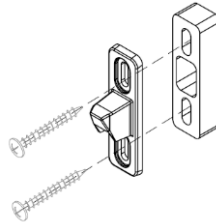

Figure 25
- 2) Please see figure 25 above, box keeper must be installed with screen spacer provided. This will prevent the screen from extending too far into the jamb. This keeper is attached using the 10x1" Phillips head pan tek screw include in the kit bag.